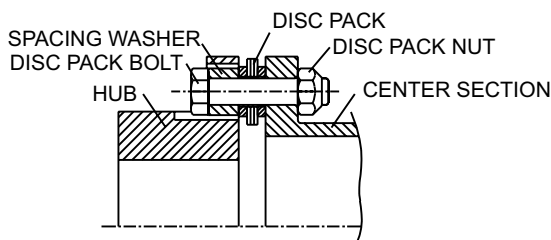

Figure 6. Bolt Disc Pack to Center Section
- 5.4 Place a spacing washer over a disc pack bolt. Insert the bolt through the large hub clearance hole and the disc pack bushing. See Figure 6. Tap the bolts lightly for full engagement. Repeat for the other bolts.